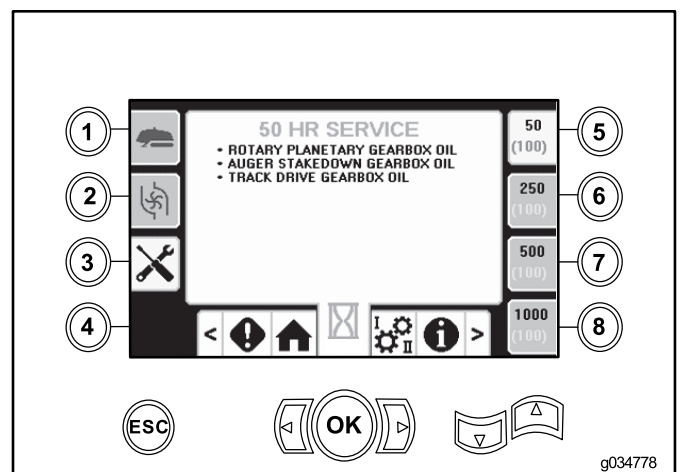

Figure 6
- Button 5—50-hour maintenance schedule (Figure 6)